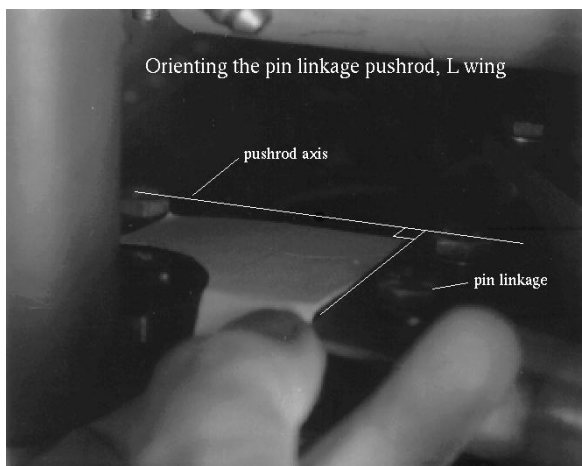

Figure 1.34. The pin linkage should be perpendicular to the pushrod when the pin is fully engaged.
2. Orient the pushrod (7020-18) parallel to the downlock pin (7020-13) as shown in Figure 1.34. If the pin is fully engaged, this can be done by positioning the rear torque tube bearing in the out-of-plane direction (e.g. towards the top or bottom skin) so that the pin linkage (7020-8) is perpendicular to the pushrod. Mark the position of the bottom of the rear bearing flange on the mounting plate.